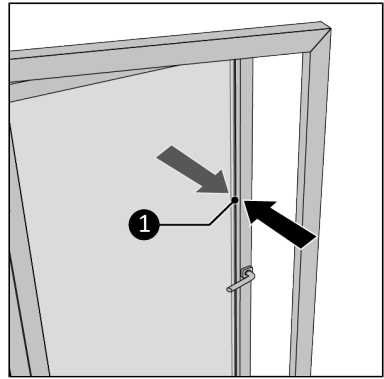

Figure 76.
2. Measure the width of the outward turning frame of the window (Figure 76, pos. 1).